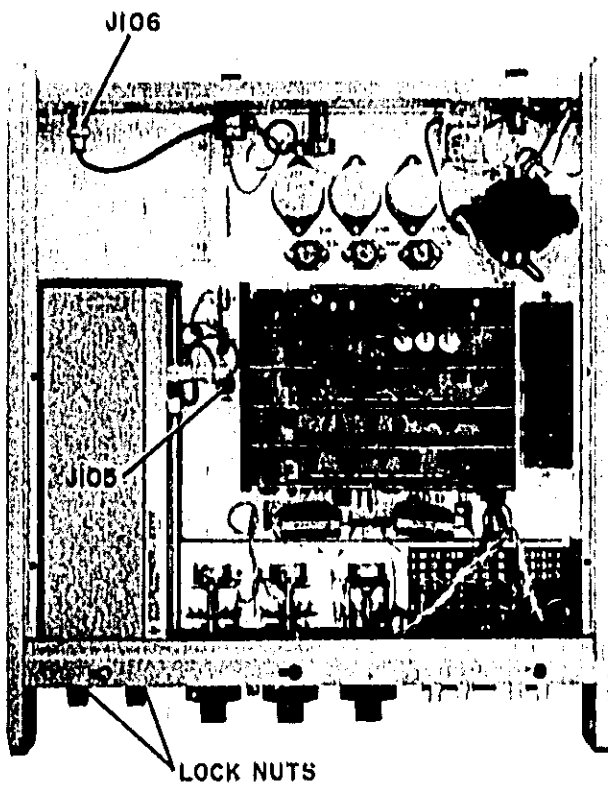
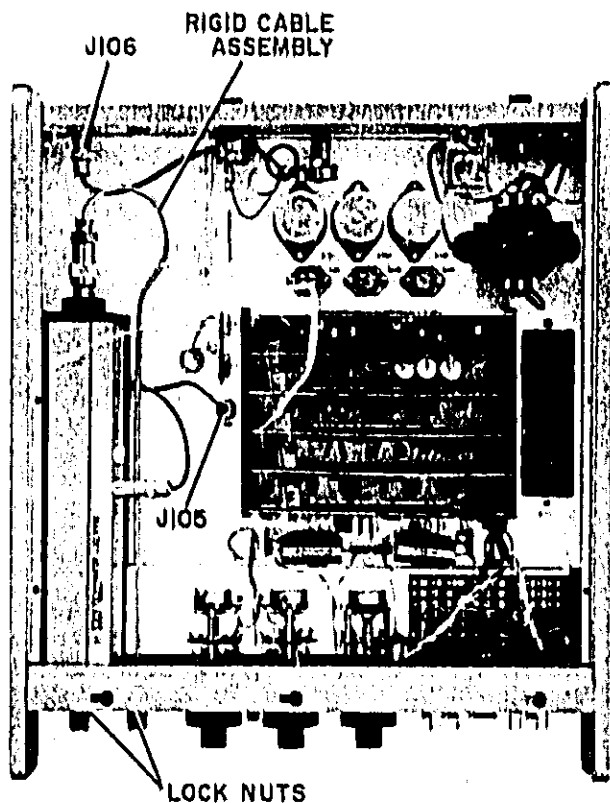

Figure 3. Model 8403A with Option 002 Installed
Figure 4. Model 8403A with Option 006 Installed
b. For installation of 8403A Options 002 and 004, refer to Figure 3 for the following procedure. For installation of all other 8403A options, refer to Figure 4.
c. Attach rigid cable assembly to PIN Modulator as illustrated in Figure 4 (Note: for 8403A Options 002 and 004, the rigid cable assembly is not shown because it is not used).